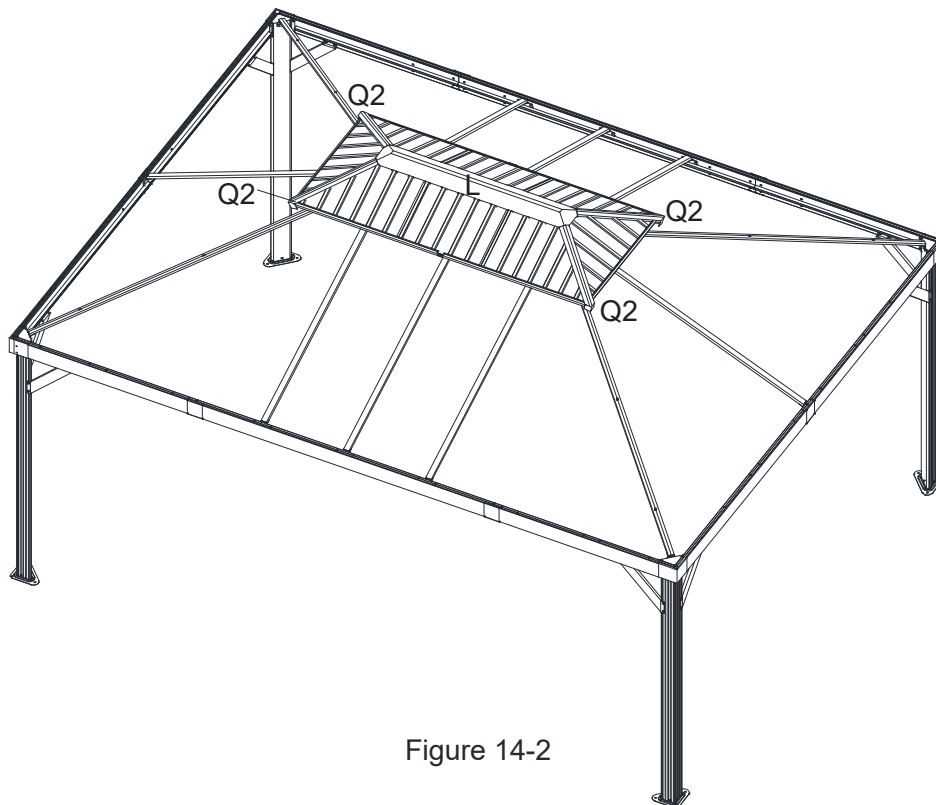

Figure 14-2
14.2: Repeat for all corners. Tighten All Bolts. See Figure 14-2.